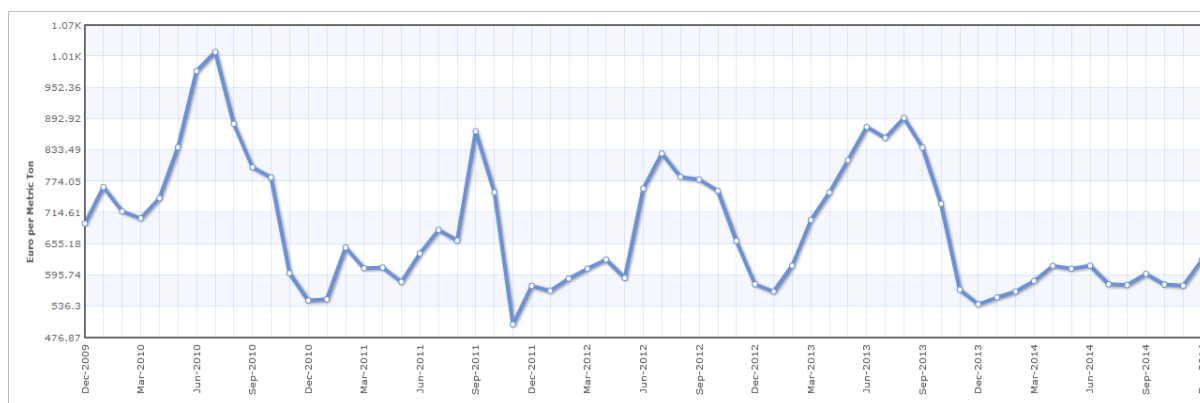

Figure 2 Monthly price for Oranges [Source: World Bank]
- Cost of oranges (per supplying country, one supplier per country only, see figure 2 for a typical graph)